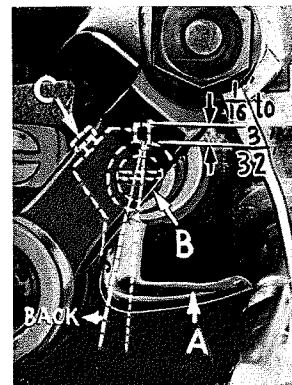
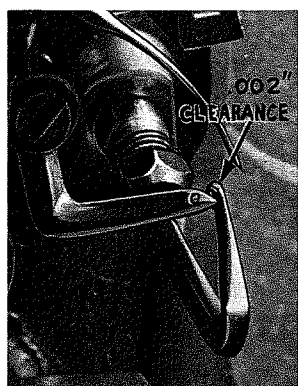
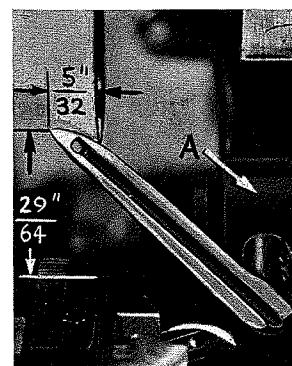

Fig. 7A
Fig. 8A
Fig. 9A
Insert the upper looper (A, Fig. 7A) in its holder. Screw (B) holds upper looper in its holder, and permits it to be pushed in or out or turned around its shank. Insert upper looper holder into upper looper shaft, if it is not already in place. Screw (C) on clamp holds the upper looper holder in the shaft. Locate the upper looper in its holder so that the shank extends $1/16$ to $3/32$ inch beyond holder (Fig. 7A).
When the upper looper is at the right end of its stroke, upper looper holder should be set to position upper looper shank back of vertical (Fig. 7A), but be sure there is a clearance between heel of looper and casting. Now, by adjusting looper holder in or out of upper looper shaft and by turning the looper around its shank, set upper looper point to cross lower looper to the left of the lower looper eye with .002 to .004 inch clearance (Fig. 8A).
Next, turn handwheel until upper looper is at left end of its travel. Check $5/32$ inch dimension of upper looper point with respect to center line of needle and $29/64$ inch dimension of upper looper point with respect to top of throat plate (Fig. 9A). The $29/64$ inch dimension is increased by turning upper looper holder counterclockwise, looking from left end of machine. If the $5/32$ inch dimension is too small, pull the upper looper holder out of the upper looper shaft to correct the condition. Turn upper looper holder forward (counterclockwise, looking from left end of machine) so that the upper looper point crosses the lower looper, without interference, as close as possible to the left of lower looper eye. It may be necessary to rotate the upper looper around its shank slightly to maintain conditions shown (Fig. 8A).
If the $5/32$ inch dimension is too large, push upper looper holder into upper looper shaft to correct the condition. Turn upper looper holder backward, if necessary, so that the upper looper point crosses the lower looper, without interference, as close as possible to the left of the lower looper eye. It may be necessary to rotate the upper looper around its shank slightly to maintain conditions shown (Fig. 8A).
Check the setting to avoid interference between the upper looper and the needle on the needle downstroke. If the needle rubs the back of the upper looper, pull the looper out of its holder slightly to reduce the $1/16$ to $3/32$ inch dimension (Fig. 7A) and rotate the looper a short distance counterclockwise, looking from the left end of the machine. Reset to maintain the dimensions of Figures 8A and 9A.